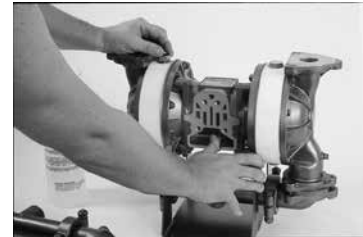

Fig. 4 Purge air in pump by moving diaphragm rod.
5. After filling with the proper amount of liquid, if the liquid does not come to the top of the fill hole, pressure should be applied to the Virgin PTFE diaphragm with a blunt tool through the discharge material flow port in the outer chamber until it does come to the top (see Fig. 4). To facilitate this filling, a taper punch can be used in the hole of the rod to manually shift the pump.